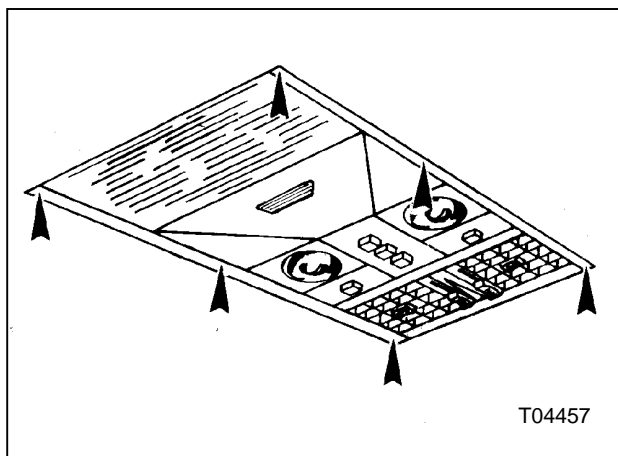

Figure 17: Service module. Location of screws. Remove screw head buttons first
- 3) Remove the rearmost service module from the left hand parcel rack by withdrawing the six retaining screws (see Figure 17).